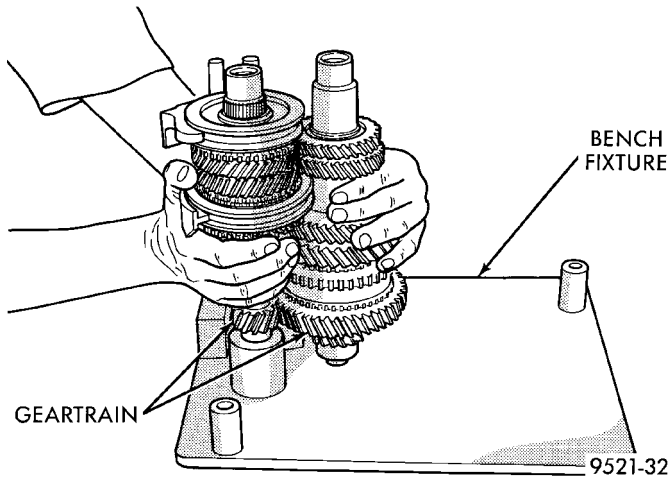

Fig. 57 Bench Fixture
(1) Verify bench fixture shims are removed from bench fixture. Install output and input shafts into bench fixture (Miller tool #6785) (Fig. 57).